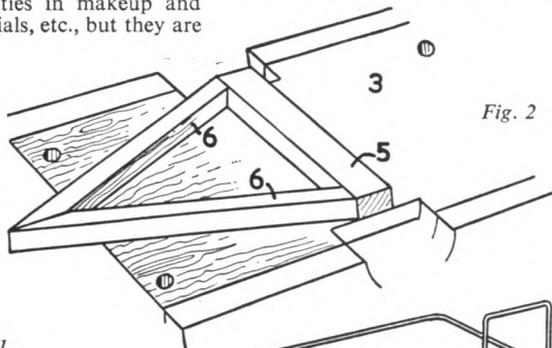

Fig. 2
Turn the assembly over and glue the axle (5) and chassis (6) in position as indicated in Fig. 2. Next shape the lamp holder support (9) and glue it in